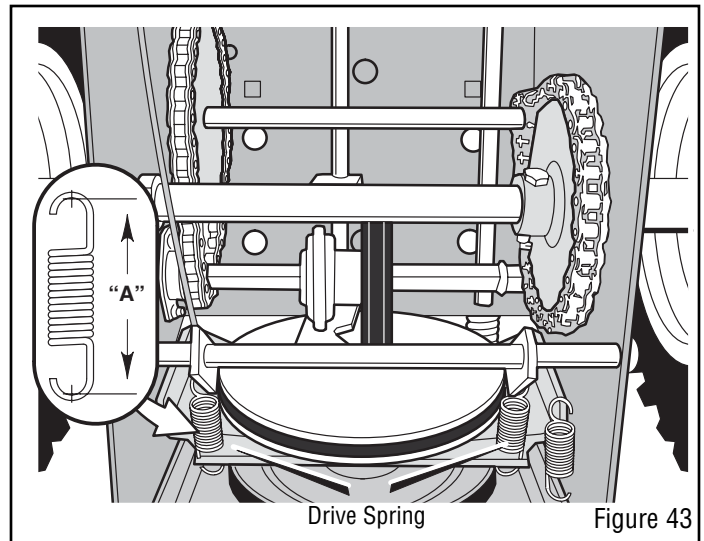

Figure 43
11. To check the adjustment, depress the drive lever and check the length of the **drive spring** (see Figure 43). In correct adjustment, the length of the **drive spring** is minimum 3 inches (76 mm) maximum 3-3/8 inches (85 mm).